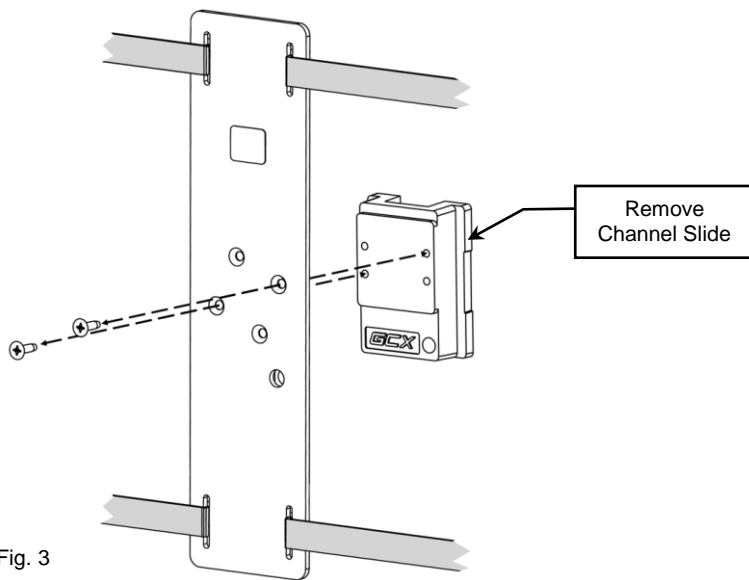

Fig. 3
1. Using a Phillips screwdriver, remove the (2) mounting screws and Channel Slide from Power Strip Mount as shown (Fig. 3).